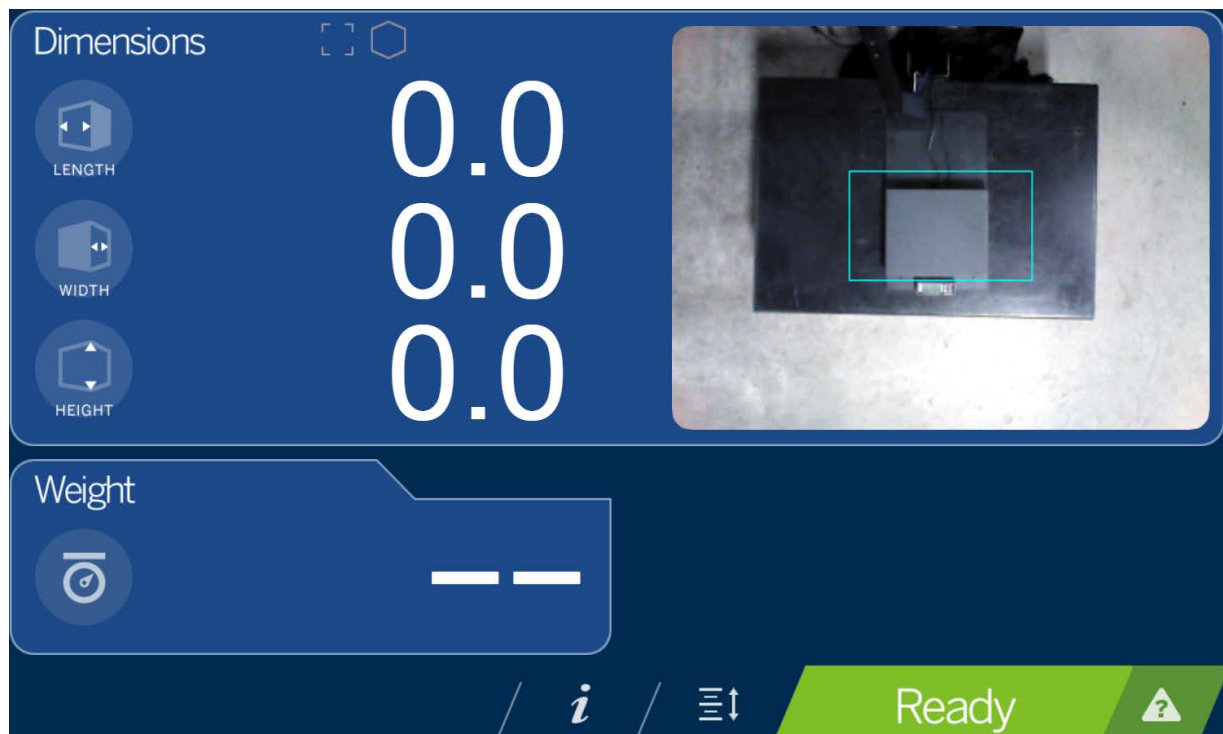

Figure 3-1. Touchscreen Display
1. From the display (Figure 3-1 on page 16), select the **Device Information** button  (Figure 4.1 on page 21) at the bottom of the display.
- Upon successful zero height calibration then select  (Figure 3-1 on page 16).
The weigh area provides a real-time view of the scanning area from the scanning head onto the USB display. The blue box within Figure 3-1 is the **Scan Zone** which indicates the area the iDimension Plus will dimension (Section 7.1 on page 36).
5. Upon successful zero height calibration then select . The display returns to the **Touchscreen Display** (Figure 3-1 on page 16).
1. Select the **Device Information** function key  located at the bottom of the screen (Figure 3-1 on page 16).